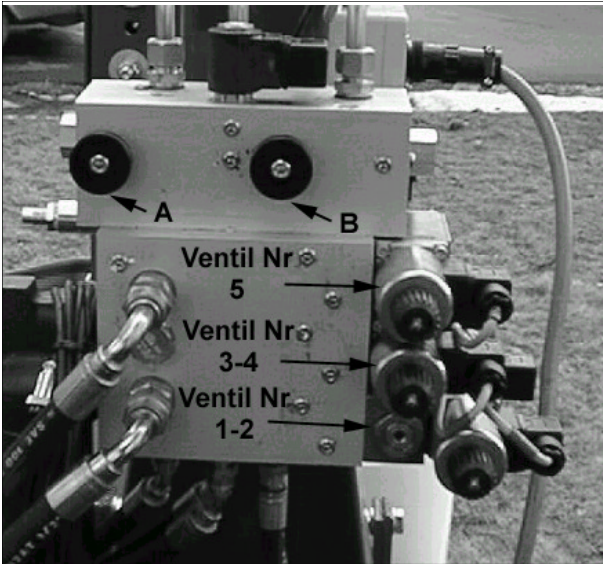

Fig. 13-1
- b) **Safety valve on the plus side. (S3, fig.13-1).**
- c) The safety valve, (S3, fig. 13-1), can be leak, so that the oil is passing by the wrapping arm motor. Dismantle and try out if the sliding shaft can move freely